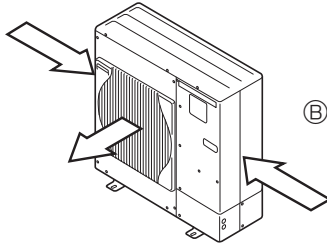

Fig. 2-4
- ③ Position the unit so that the outlet air can blow at right angle to the seasonal wind direction, if possible. (Fig. 2-4)